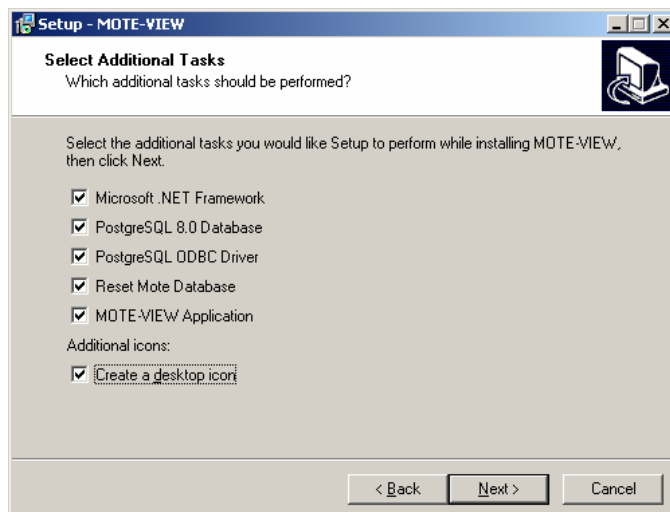

Figure 2-3. Step 6: Select all options if installing MoteView for the first time
6. Select all available installation tasks and click **Next>** (see Figure 2-3).